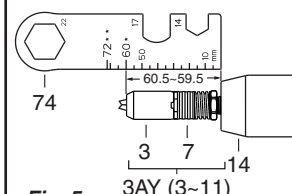

Fig. 5
2. Check for air leaks. If damaged, replace the mini air fitting (36), air hoses (38), and swivel air fitting with on/off slide switch (71).
4. Check the JAW CASE ASSEMBLY DISTANCE that meets the specification  $60 \pm 0.5$  mm (Fig. 5).
5. Carefully check and firmly tighten the jaw case assembly (3AY), working nosepiece (1), head (2), oil screw plug (16), front end cap (24), rear end cap (31), noise silencer lock nut (42), valve end cap (61), air cylinder end cap (68), air inlet end cap (70), swivel air fitting with on/off slide switch (71) before daily operation.
6. Check to empty the spent mandrels. Be sure to fit the spent mandrel container (35) to the front end cap (24) firmly.
7. **Use the wrench 7222 (74) to check and adjust the lock nut (11) to the recommended jaw case assembly distance  $60 \pm 0.5$  mm (Fig. 5).** At the same time, tighten the rear jaw case (7) and the lock nut (11) firmly with the wrench 7222 (74) and wrench 2710 (75). Finally, use the wrench 2710 (75) to fasten the head (2) firmly.
8. Connect the tool to the compressed air supply system. It is suggested to depress the trigger (45/45L) twice to adjust the inner parts of jaw case assembly (3AY) to the normal position, so that the blind rivet mandrel can be inserted into the working nosepiece (1) smoothly.